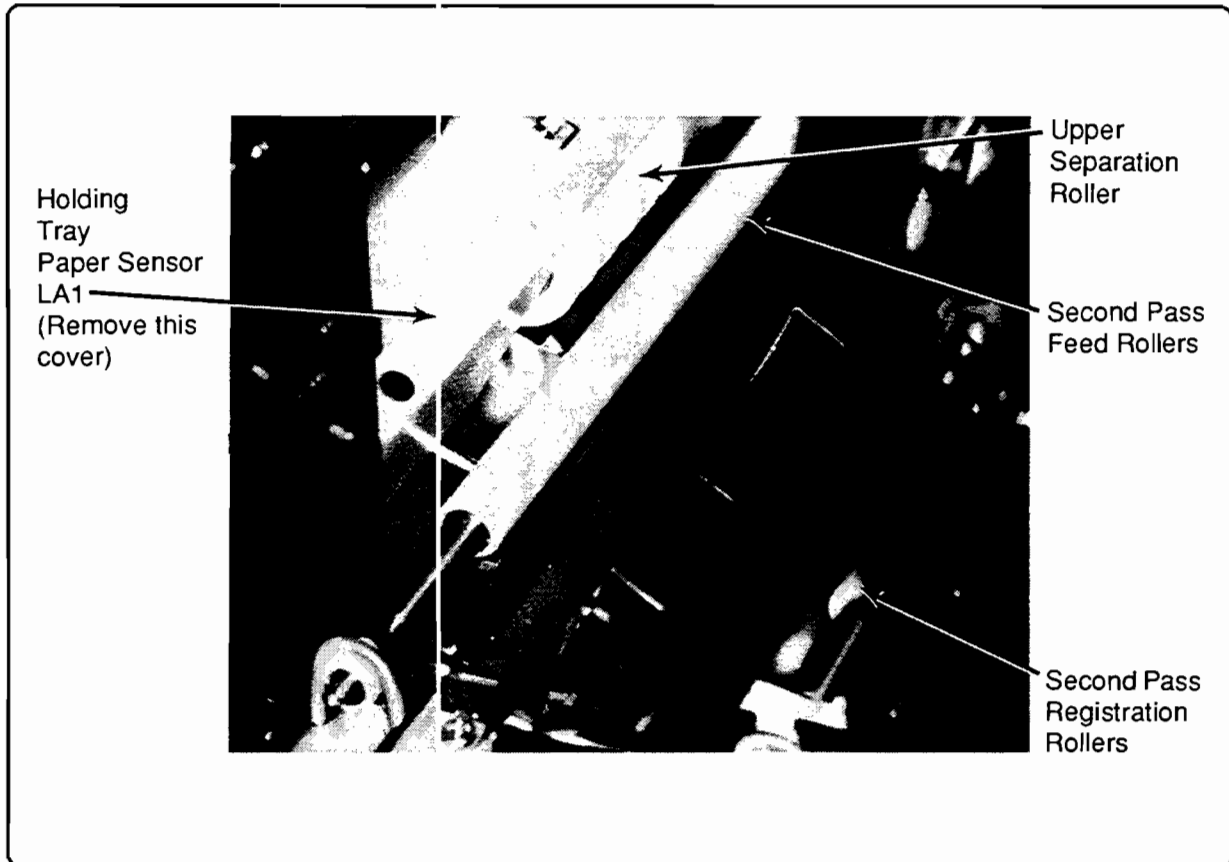

Figure 4-18. Second-pass and Separation Rollers
3. Replace holding tray paper sensor lamp, LA1, with updated version, P/N WG1-0493-000CN, per Service Note 2684-5 (Figure 4-18).
9. Replace the white Upper Separation Roller (P/N FA3-3268-030CN, Figure 4-18 -also see page 6-138).
10. Clean the black Second Pass and Duplex Registration Rollers with Rubber Roller Restorer. Clean the white Second Pass and Duplex Registration Rollers with alcohol (Figure 4-18). Reinstall the Separation Unit.